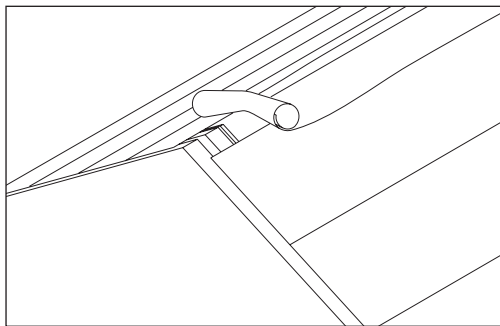

Fig 8 – Underlay at Duo ridge
- Lay top courses of underlay over apex and fix in an overlapping manner to rafters (Fig 8).